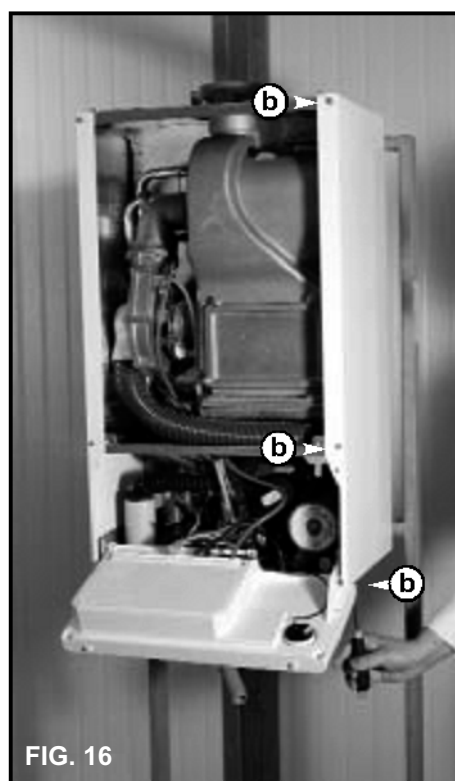

FIG. 16
- 5) Remove screws (marked 'b' on **fig 16**) from the side panel and lift off.